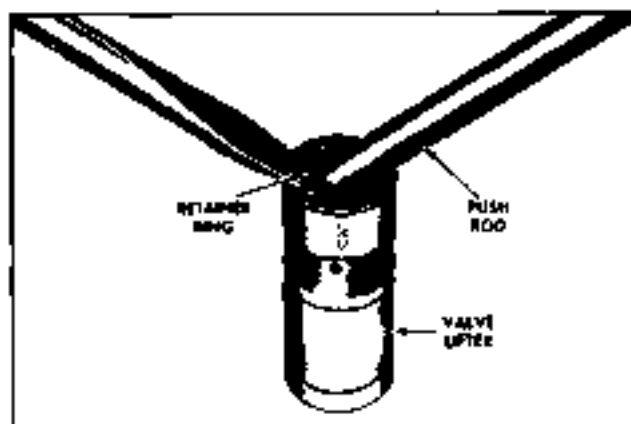

Fig. 6-83 Removing Push Rod and Retainer
1. Remove push rod seat retainer ring by holding seat down with push rod while dislodging spring from lifter body with a pointed tool (Fig. 6-83).